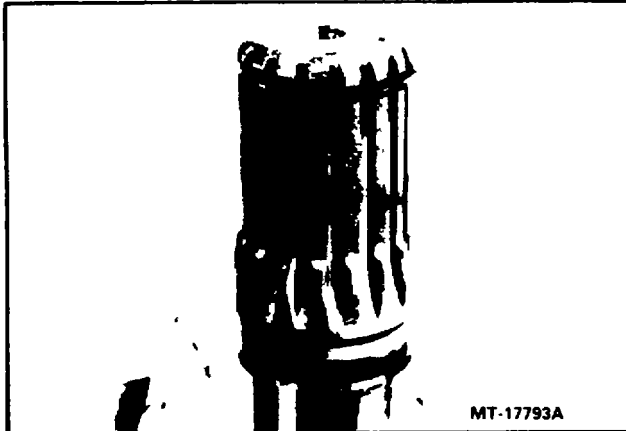

Fig. 18. Axle Shaft Lock Ring
4. Install new lock ring on axle shaft end and place axle shaft in a vise equipped with soft jaws. See Fig 18.